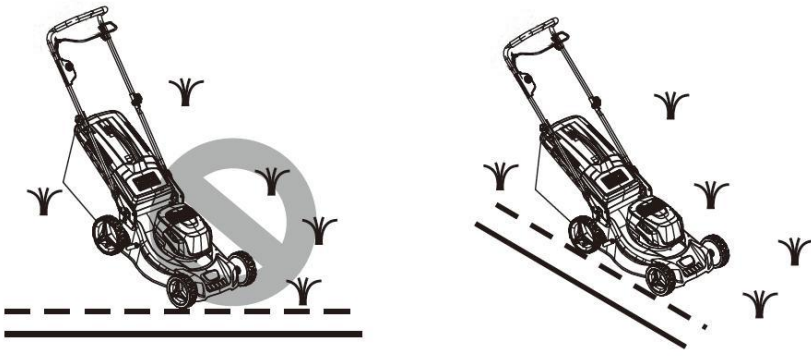

Fig.9B
d) Never lift the rear of the mower while starting the motor or during normal operation. (Fig.9B)